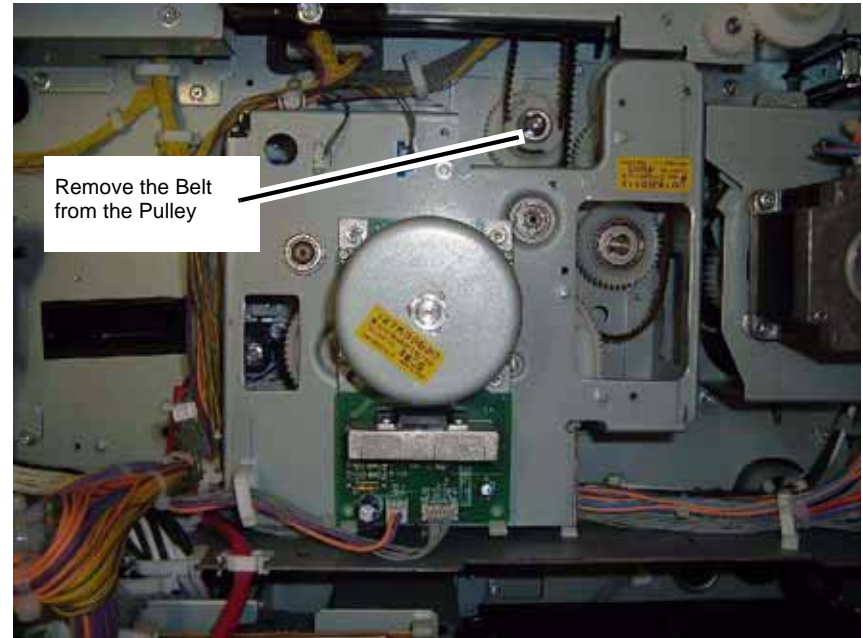

Figure 4 Removing the Belt from the Pulley
6. Remove the Belt from the Pulley (Figure 4).